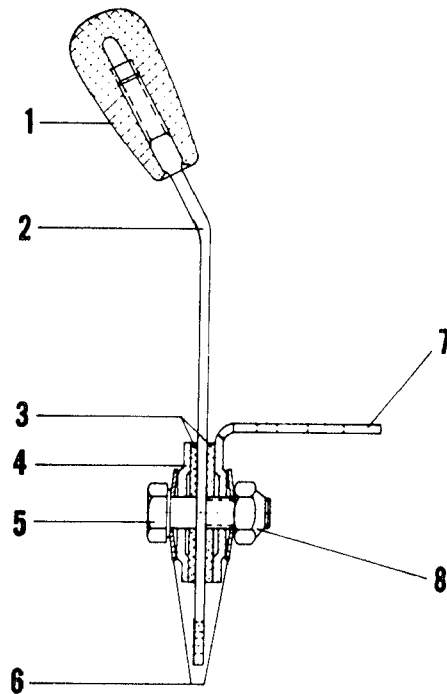

Fig. 4
2. Install component parts as shown in Fig. 4.